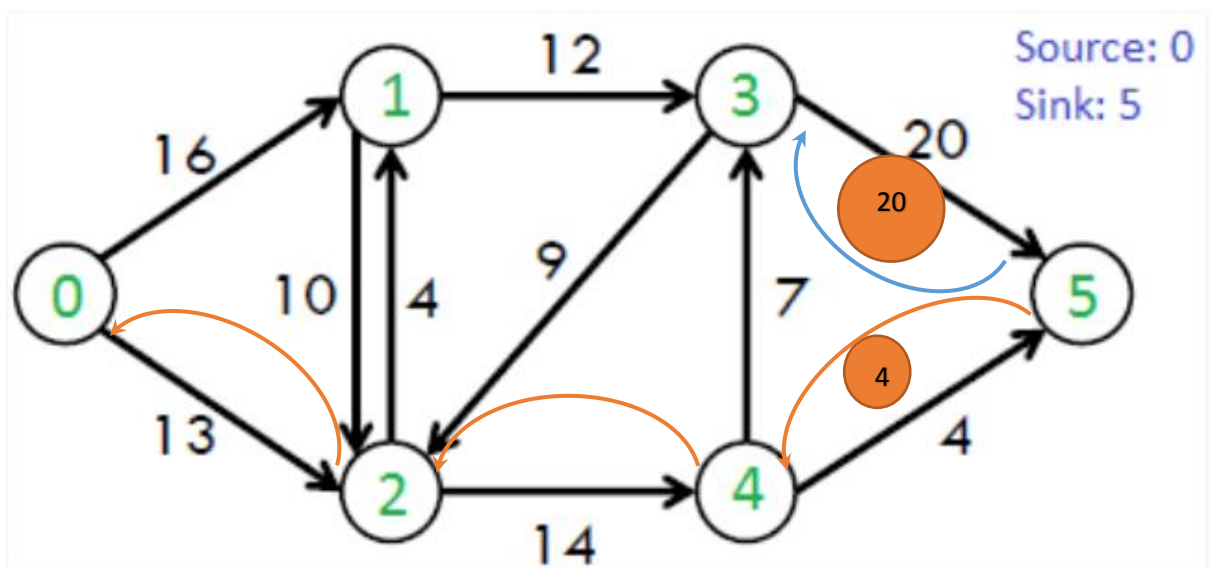

Figure 20
Step 2 : From Sink, identify the second minimum from and try to shift the same to source. Here in our example, flow of 20 units is the minimum flow from sink (Node 5) that can be shifted under this step (refer figure 20)